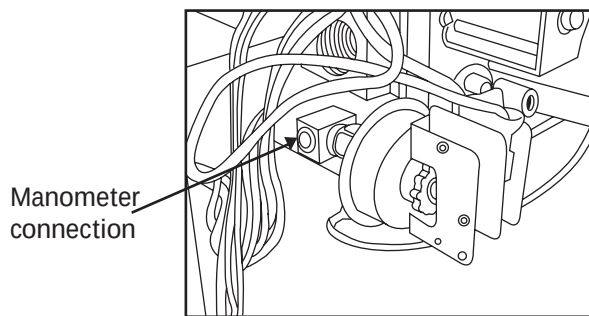

**Fig. 29 - LGPS Installed**
5. Apply pipe dope sparingly to male end of brass tee. Install propane low gas pressure switch (provided in kit) on male end of the female x female x male tee. Tighten switch finger tight. Use a small open-end wrench on base of pressure switch for final tightening. (See Fig. 29.)
6. Connect a manometer to the open end of the tee installed in the gas valve. (See Fig. 29.)
1. Verify manometer is connected to the brass tee connected to the inlet pressure tap on gas valve. (See Fig. 29.)
3. Attach manometer to manifold pressure tap on gas valve. (See Fig. 29.)